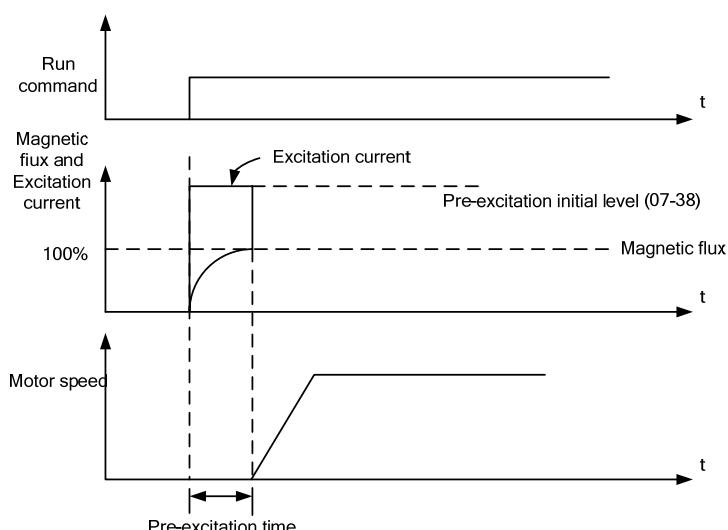

Figure 4.3.62 Pre-excitation operation
- (1) When an operation command (forward or reverse) is activated, the inverter will automatically start pre-excitation based on the time set in parameter 07-37.
- (2) The time for the flux to reach 100% is a function value of motor's electrical time constant, see figure 4.3.62.
- (3) Electrical time constant (quadratic by-pass circuit time constant) can be calculated by motor parameter setting (group 02).
- (1) Use the pre-excitation initial level (07-38) to provide a higher excitation current during the pre-excitation time (07-37), which will increase the speed and stability for motors.
- (2) In order to quickly magnetize the motor, reduce the pre-excitation time (07-37) and set the pre-excitation level (07-38) to a high level.
- (3) If 07-38 is set greater than 100%, providing a high excitation current during the pre-excitation time (07-37), motor's magnetization time is shorted. When the setting reaches 200%, magnetization is reduced by roughly half.
- (4) A high pre-excitation level (07-15) might result in excessive motor sound during pre-excitation.
- (5) When the flux reaches 100%, pre-excitation current reverts back to 100% and pre-excitation is completed, refer figure 4.3.62 .